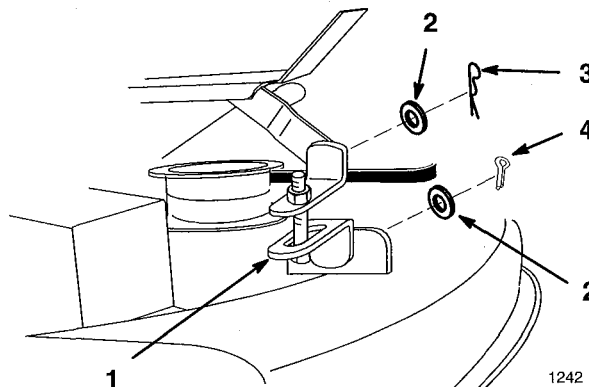

Figure 7
8. Install adjustable link between front bracket and lift arm with washers and hairpin cotters (Fig. 7).